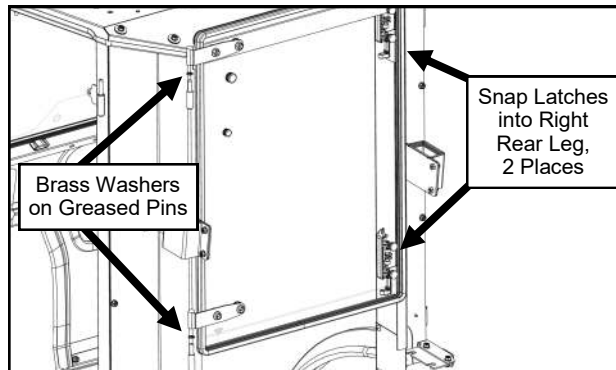

Fig. 16.1 (Hang Rear Window)
**16.1** Grease the hinge pins found on the left side rear leg and slide on greased brass washers (one washer per pin). See Figure 16.1.